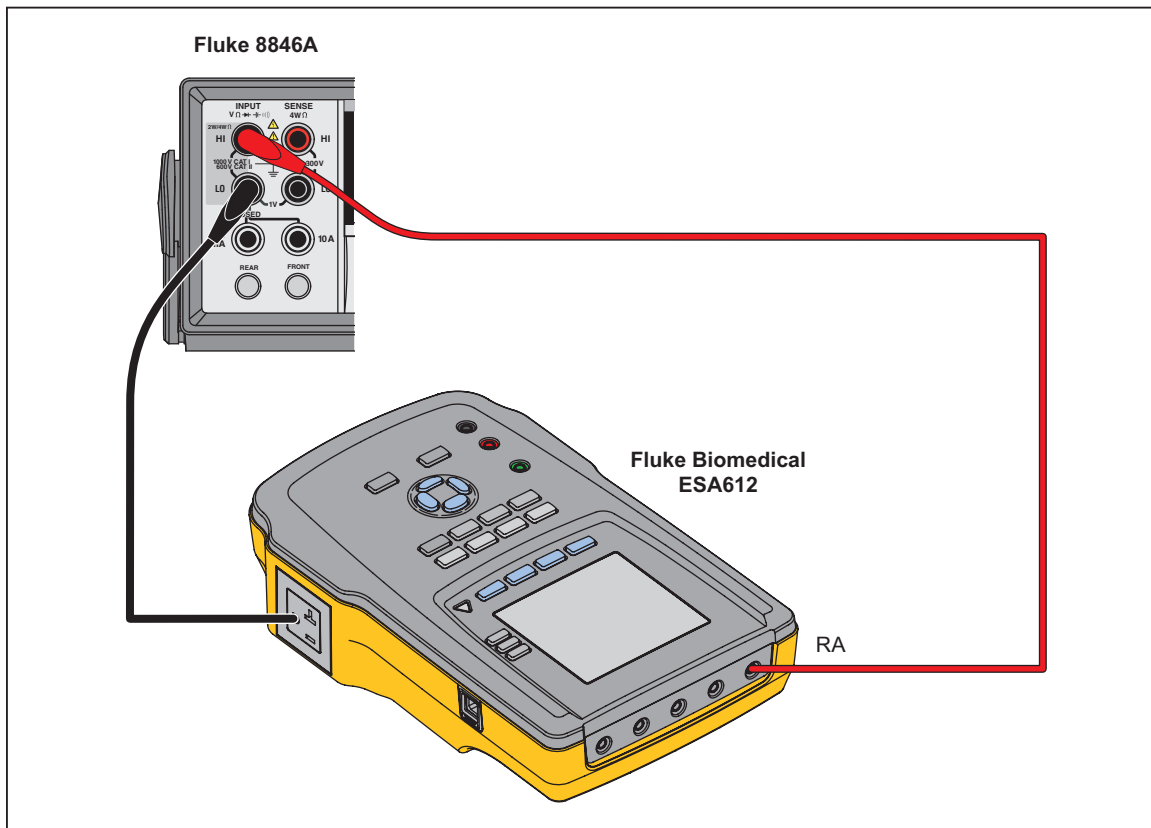

Figure 3-17. ECG Leakage Functionality Connections
1. Connect the DMM Input (+) to the RA applied part. Connect the DMM Input (-) to the EO ground. See Figure 3-17. Set the DMM for 1 K $\Omega$  resistance range. During this test, the DMM will function as both a current source and an ohmmeter.